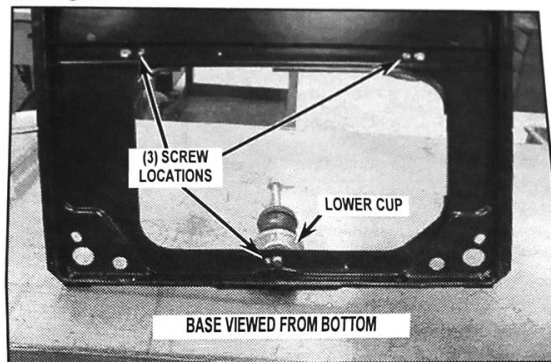

FIGURE 14
20. After you have installed the shocks to the base, drive the three (3) self drilling screws (provided with kit) through the base from the bottom penetrating through the lower cup of the suspension shock at all three shock locations. Locate the screws 5/8" from the center of the shock stud. This will assure no twisting of the shock during operation and becoming loose. See Figure 14.